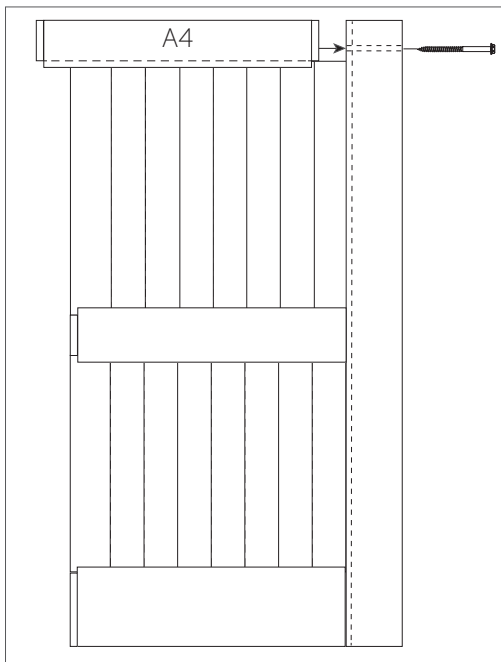

Figure 5
- Slide the top rail (A4) lower groove over the top of the upper slats. Tap with a rubber mallet into the right side rail. Attach the upper rail to the right side stile using a socket wrench with a 7/16" socket and one lag screw (D) (Figure 5).